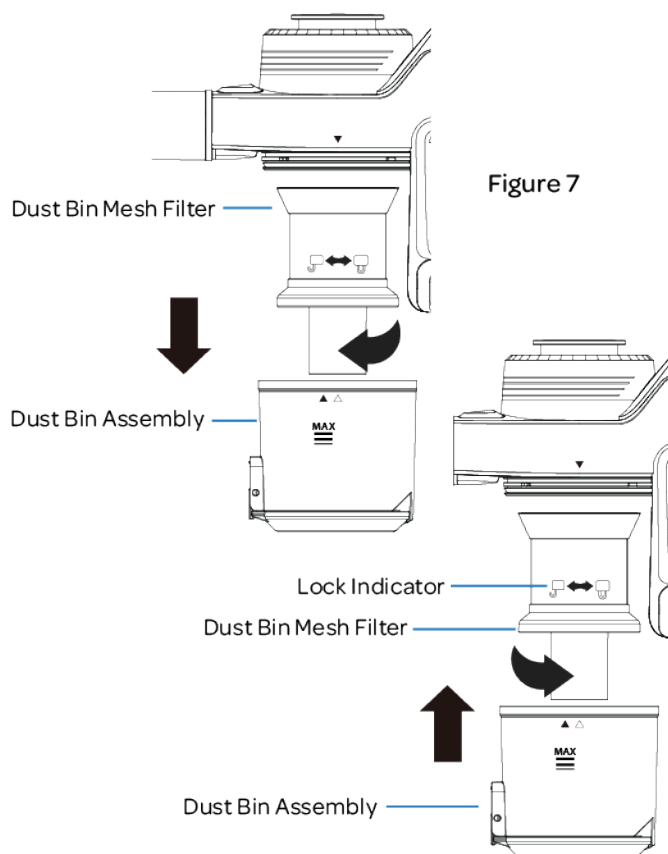

Figure 7
3. Remove the Bin Mesh Filter by rotating the Dust Bin Mesh Filter to the left to unlock. (Figure 7)
4. Pull the Dust Bin Mesh Filter down from the Main Body to remove. (Figure 7)